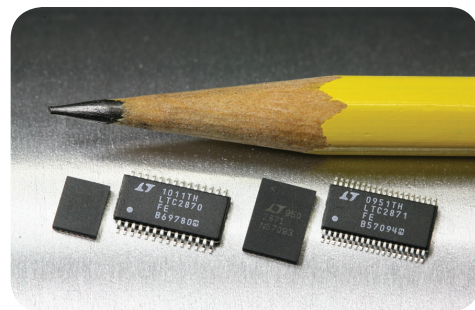

Figure 1. The LTC2870 and LTC2871 are offered in small QFN and TSSOP packages
- Both devices are offered in small QFN and TSSOP packages, as shown in Figure 1.